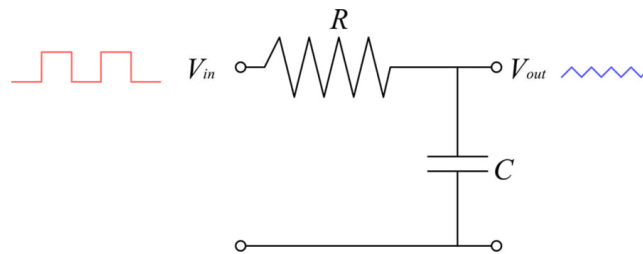

Figure 24: A typical low pass filter implemented with a resistor and a capacitor
An output square wave generated with the PWM technique can be filtered to generate a smoothed signal, that is an analog signal that has a reduced *peak-to-peak* voltage (V_{pp}). A *Resistor-Capacitor (RC) low-pass filter* (see **Figure 24**) is able to cut-off all those AC signals having a frequency higher than a given threshold. The general rule of thumb of RC low-pass filters is that the lower is the cut-off frequency the lower is the V_{pp} ³⁴. An RC low-pass filter uses an important characteristic of capacitors: the ability to block DC currents while allowing the passing of AC ones: given the R/C time constant formed by the resistor-capacitor network, the filter will short to ground those AC signal with a frequency higher than the RC constant, allowing to pass DC component of the signal and lower frequency AC voltages.